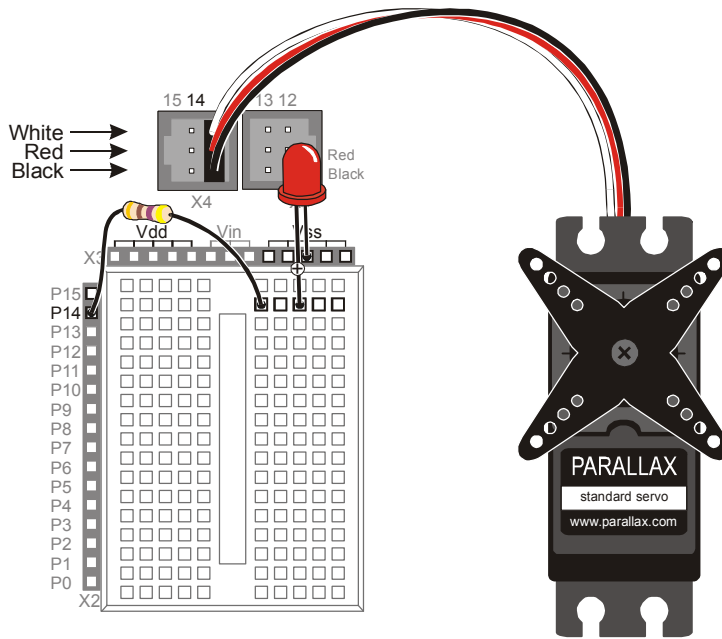

Figure 4-13
- √ Connect the servo to the servo header as shown in Figure 4-13.